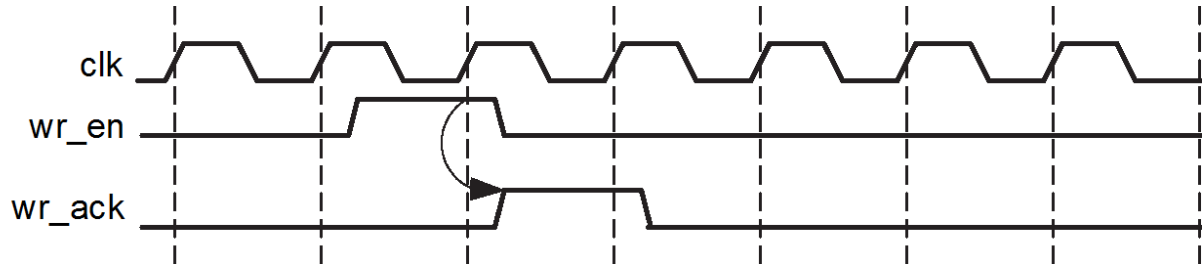

Figure 3-39: Latency 0 Timing
**Note:** Latency is defined as the number of clock edges after a read or write operation occur before the signal is updated. Example: if latency is 0, that means that the signal is updated at the clock edge in which the operation occurred, as shown in Figure 3-39 in which  $wr\_ack$  is getting updated in which  $wr\_en$  is high.